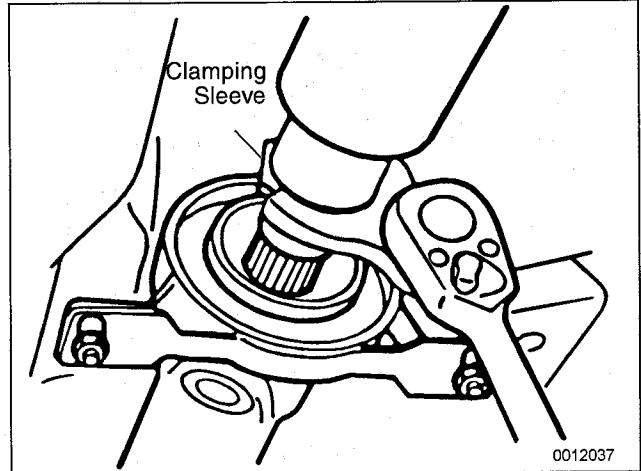

Fig. 4. Threaded clamping sleeve nut being loosened.
5. Loosen threaded clamping sleeve on driveshaft a few turns. See Fig. 4.